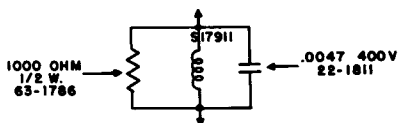

Fig. 40 — Zenith
**Raster ringing (see Fig. 40).**